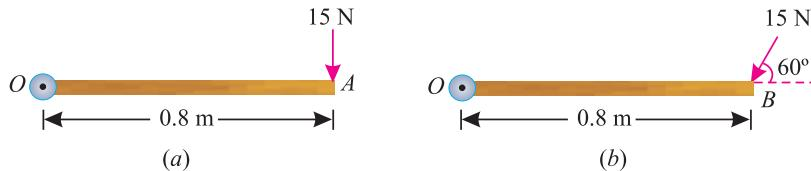

Fig. 3.3.
**Example 3.1.** A force of 15 N is applied perpendicular to the edge of a door 0.8 m wide as shown in Fig. 3.3 (a). Find the moment of the force about the hinge.
If this force is applied at an angle of  $60^\circ$  to the edge of the same door, as shown in Fig. 3.3 (b), find the moment of this force.